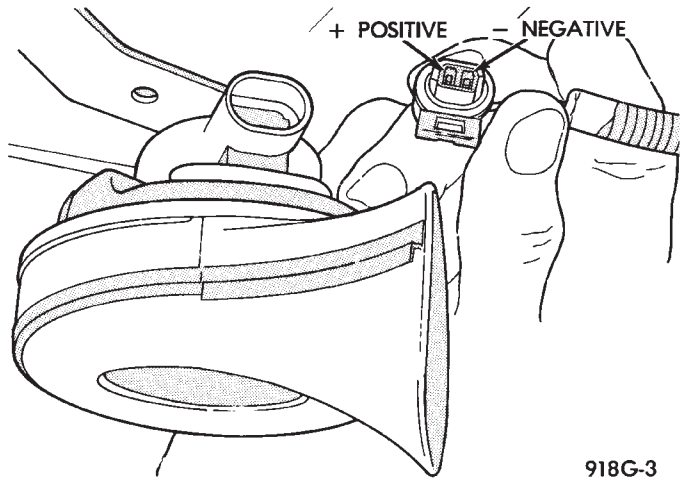

Fig. 2 Horn and Connector
- (1) Disconnect wire connector at horn.
- (2) Using a voltmeter, connect one lead to ground and the other lead to the positive wire terminal (Fig. 2).
- (3) Depress the horn switch, battery voltage should be present. Repeat for the other horn.
- (4) If no voltage, repair as necessary. If voltage is OK, go to next step.
- (5) Using ohmmeter, test ground wire for continuity to ground. Repeat for the other horn.
- (6) If no ground repair as necessary.
- (7) If wires test OK and horn(s) does not sound, replace horn(s).